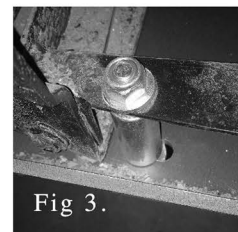

Fig 3.
6. With the #700-07 brackets in place install your rock slider using the 8 x 25mm button head bolts with washers. Complete the installation by securing the rear section using the 8 x 55mm button head bolts fed through the spacer and secured with a nylock nut as shown in fig. 3. And finally secure the rear tab to the frame tube using the 8 x 25mm button head bolt with nylock nut and washers.